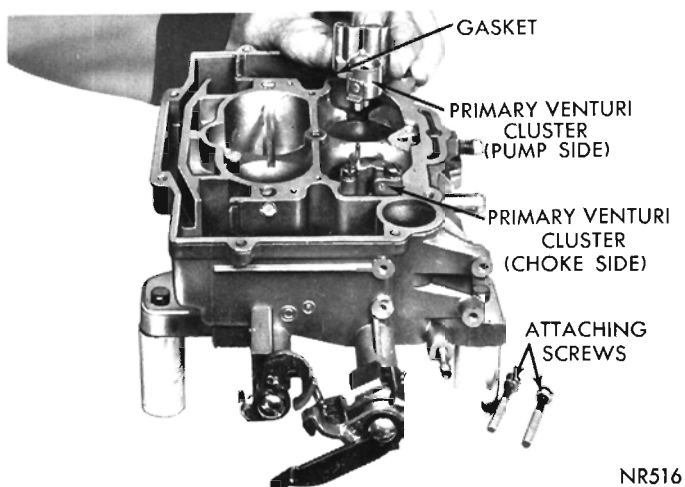

Fig. 5—Removing or Installing Primary Venturi Cluster
(4) Remove screws that attach primary venturi (choke and pump side) to main body. Lift venturi straight up and away from main body, (Fig. 5). Discard gaskets. **The venturi assemblies are not interchangeable, side for side and must be reinstalled in their original locations at reassembly.**
(5) Using Tool T-109-59, screw driver bit, remove accelerator pump intake check valve located inside fuel bowl, adjacent to accelerator pump cylinder.
(6) Remove idle mixture adjusting screw. (**Caution: This screw has a left hand thread.**)
(4) Be sure all the metering holes and vent tubes are clean, in the primary venturi. Place new primary venturi gaskets in position, then install the primary venturi (pump and choke side) by lowering straight down on gaskets. (Fig. 5). Install attaching screws and tighten securely.